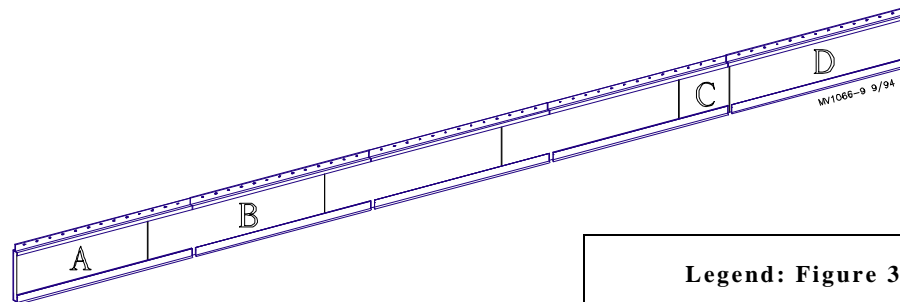

Figure 3.
4. Remove the styrofoam from the first baffle section. Cut approximately 12 inches (30.5 cm) off one end of the styrofoam section. Reinstall the 36 inch (91.4 cm) section of styrofoam to the first baffle section. See Figure 3 (section A).
**Legend: Figure 3**
Repeat this procedure for each baffle section except the last two sections. See Figure 3 (sections C & D)
6. Install the 12 inch (30.5 cm) section cut out in step 4 in the next to the last baffle section. The last section operate with, but, will not be connected to, the rest of the baffle board sections. See Figure 3.